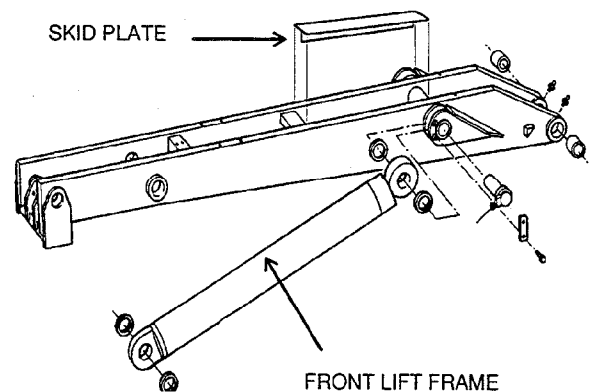

Figure 1 - Front Lift Frame
- b. Weld skid plate centrally on the front lift frame, refer Figure 1 and MEA drawing 1789-9.